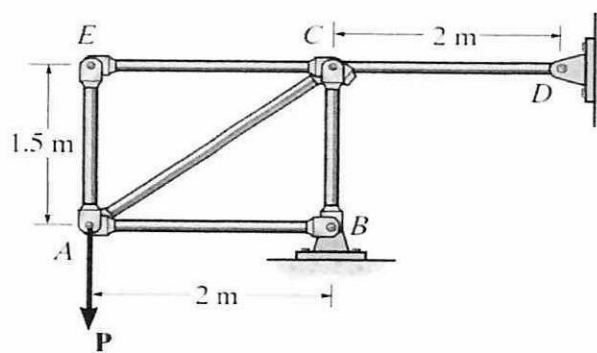

Figure Q3(c)
- (c) Truss members are assumed to be pin connected as shown in **Figure Q3(c)**. If the rod member AB is 40 mm diameter and is made of a A-36 steel with Modulus of Elasticity, $E = 200$ GPa and Yield Strength, $\sigma_Y = 250$ MPa, determine:
- Q4** (a) Define strain energy and provide **one (1)** example of a storage device that use the concept of strain energy. (4 marks)